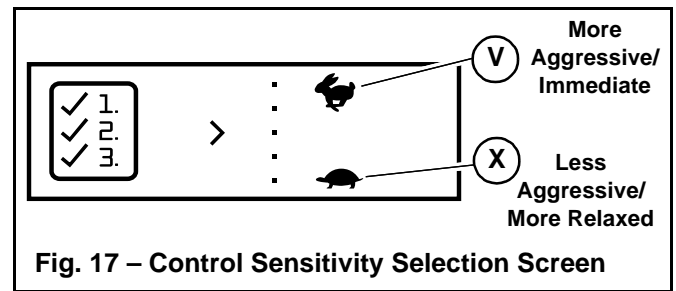

Fig. 17 – Control Sensitivity Selection Screen
3. Press and release the interface button as required to select the desired level of control sensitivity (Fig 17). Five levels of control sensitivity are available.